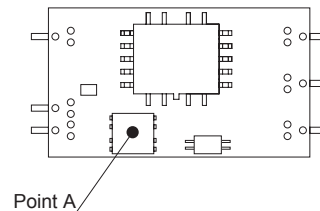

Fig.8.15 Temperature Measuring Point in the case of Forced Air Cooling
(3) Temperature Measuring Points in the case of Forced Air Cooling (1m/s)
① SU10
■ In the case of forced air cooling, please have sufficient ventilation to keep the temperature of point A in Fig.8.15 at 105°C or below. Please also make sure that the ambient temperature does not exceed 85°C.